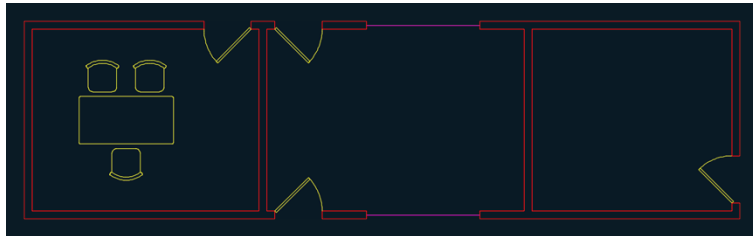

FIGURE 7.16 All doors have been updated by editing the door block in place.
5. Click the Save Changes button in the temporary Edit Reference panel on the Home tab of the ribbon. Click OK in the AutoCAD warning dialog box that appears, which says, “All reference edits will be saved.” Figure 7.16 shows the result: All door references have been automatically updated with the new door geometry.